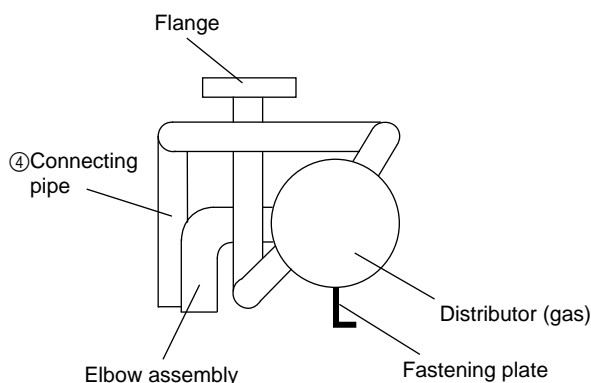
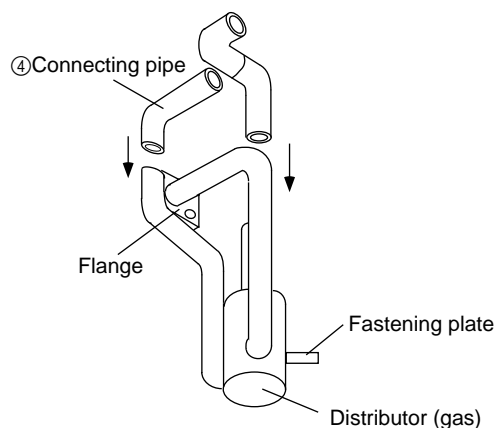

Fig. 2
Fig. 3
- (3) Braze the connecting pipe (④) and piping assembled in step (2) to the distributor (gas) so that the connecting pipe is attached as shown in Fig. 2. For assembly procedure, see Fig. 3. When brazing piping, cool the brazed portion of the distributor side piping with a dampened waste cloth to prevent heating by brazing.